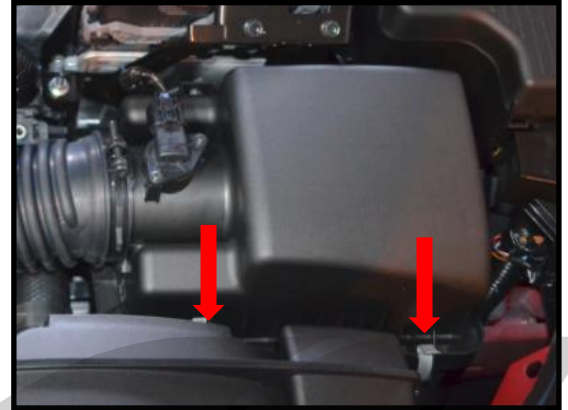

Figure 3f
- g) **Disconnect the MAF wiring and pull up on air box lid and remove it from the car** (Figure 3f). You will need needle nose pliers to compress the sides of the wiring harness tie down.